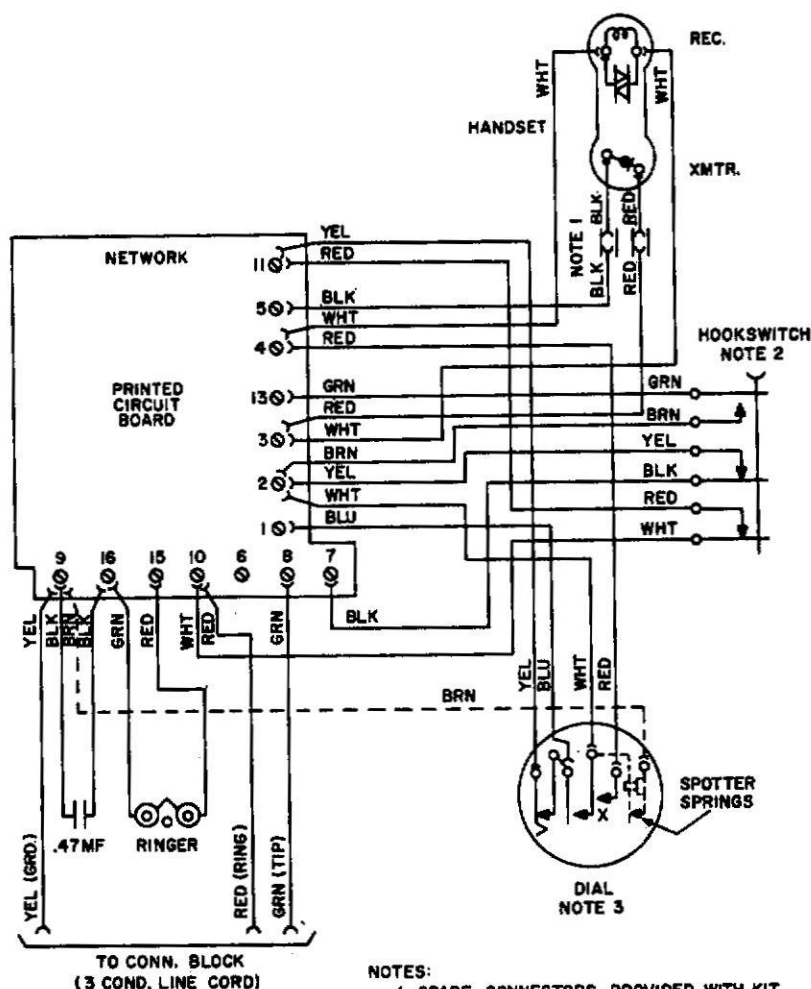

Figure 3. Wiring Diagram of Specialty Telephone Set Equipped With LM-625 Kit.
3.10 After verifying that the dial will fit into the cup, connect the dial leads as shown in Figure 3. When terminating the white lead, bend the shank of the spade terminal perpendicular to the dial base, so that it will clear the side of the mounting cup. If an SATT identity dial is required, add a brown lead from the spotter contact terminal and connect it to network terminal 9.
2.01 In the margin adjacent to Paragraphs 1.03, 2.01, 3.03, 3.09, 3.11, and 4.02, and adjacent to Figure 3, enter the notation "See Addendum."
2.04 The brown lead required only with an SATT identity dial (and shown as a dotted line in Figure 3) is now furnished as part of the dial wiring harness. When installing a standard dial, tape the brown lead back to the vinyl tubing of the harness, keeping it clear of the contact springs.